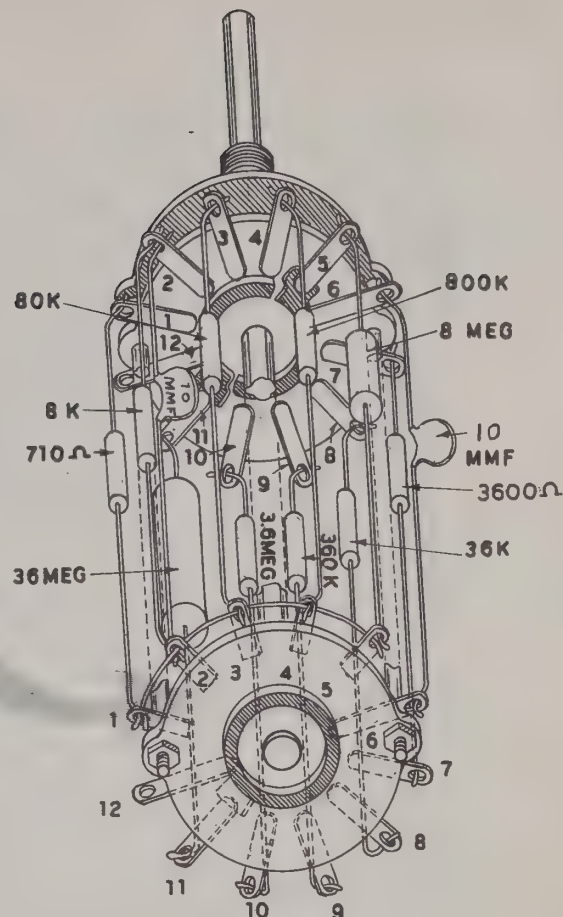

Figure 2
- (✓) Observe the two deck ceramic switch carefully. Note the position of decks "A" and "B" and the numbering system for their terminals. See Figure 2.
- (✓) Using bare wire, connect the five dummy (not connected to the rotor) lugs, B1, B2, B3, B4 and B5 together (NS).
- (✓) Connect the  $8K \pm 1\%$  resistor between A2 (NS) and B2 (NS).
- (✓) Connect the 8 megohm  $\pm 1\%$  resistor between A5 (S-1) and B5 (NS).